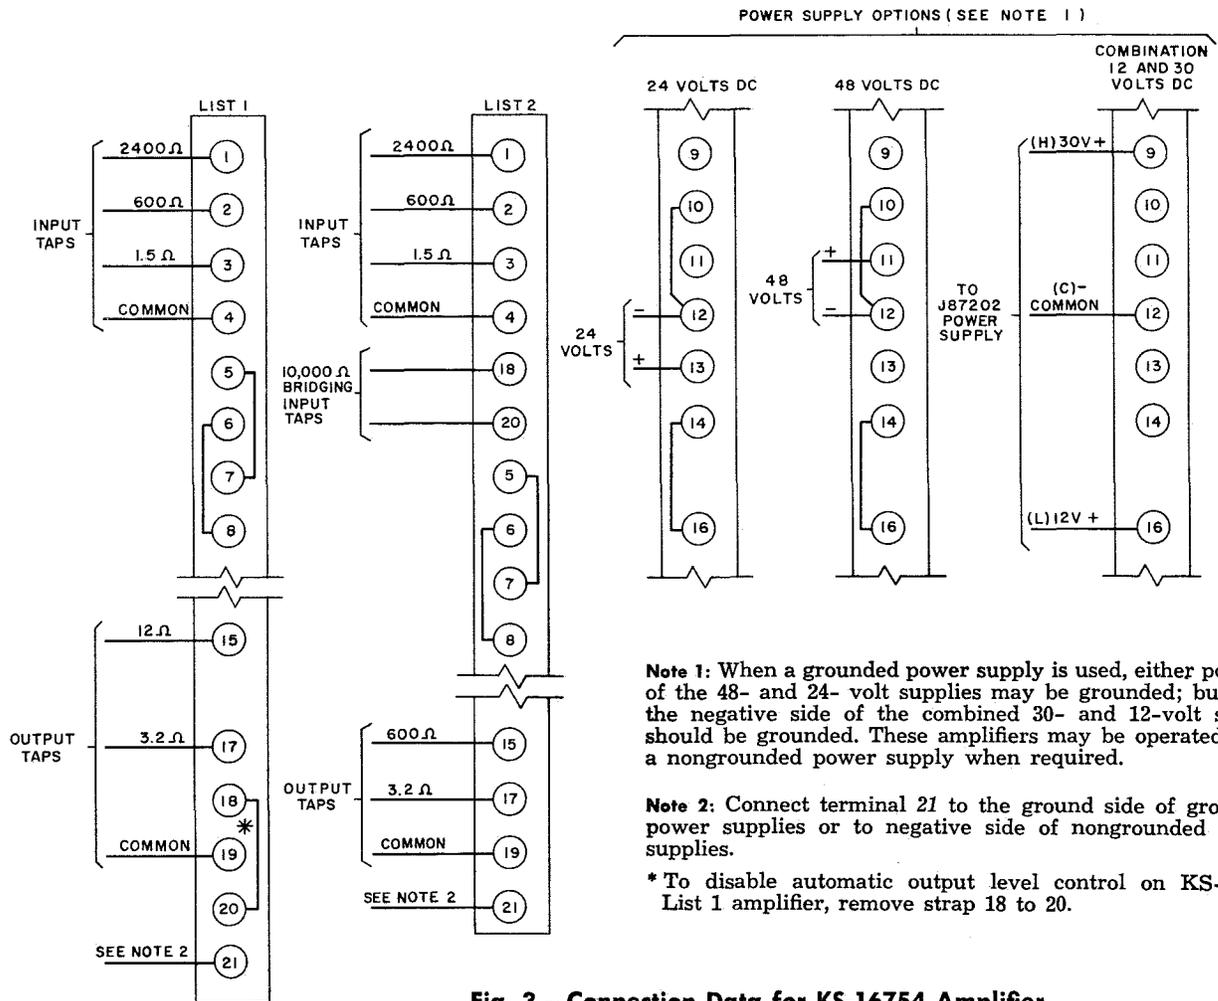

Fig. 3 — Connection Data for KS-16754 Amplifier
- Connect battery and input and output lines to terminal strip with station wire or cable. Refer to connection data in Fig. 3.
- Strap the terminal strip for 24, 48, or a combination of 12 and 30 volts dc (see Fig. 3).